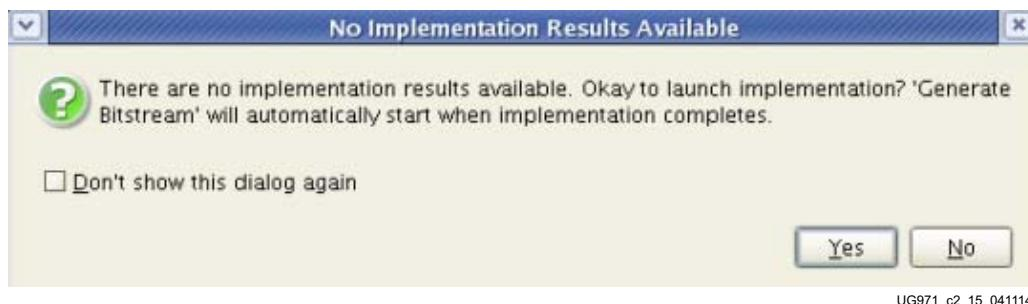

Figure 2-15: Generate Bitstream
17. In the Project Manager, under Program and Debug, click **Generate Bitstream** (Figure 2-15). A window pops up asking if it is ok to launch implementation. Click **Yes**.